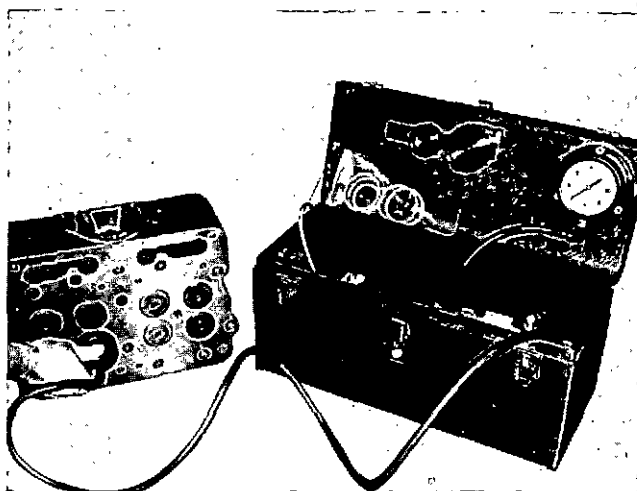

Fig. 2-26 (N10297). Vacuum Test The Valves.
2. Put the vacuum cup over the valve, Fig. 2-26. The O-ring in the cup must make a seal on the cylinder head around the valve.